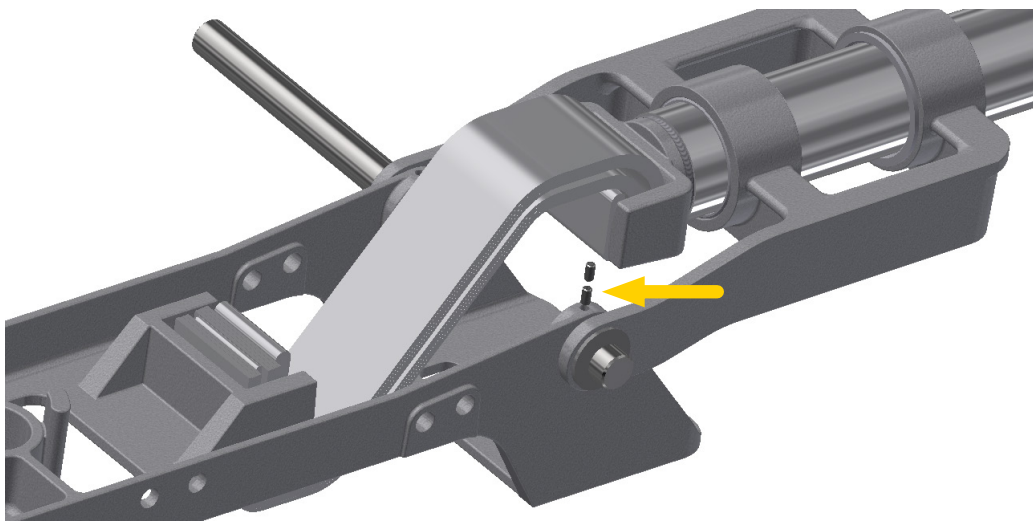

Figure 13. Remove set screws from Hinge Casting
2. Locate the two 1/4" set screws on the top of the AVR hinge casting (Figure 13). Using the 1/8" allen wrench, remove both set screws and set aside.